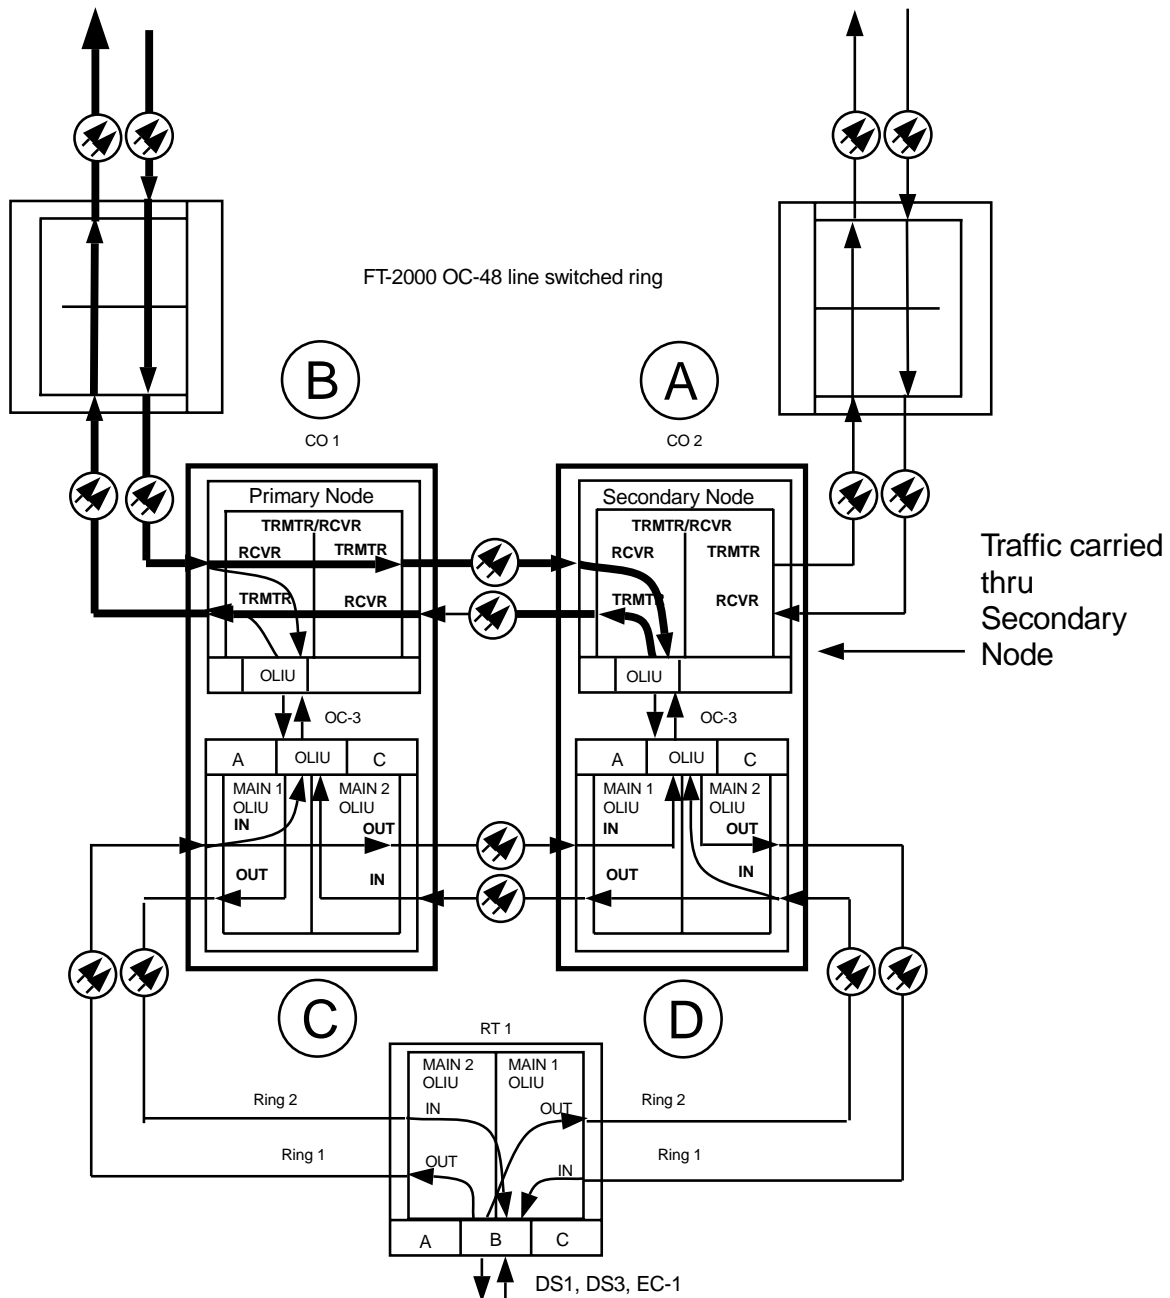

Figure 2 - OC-3/OC-48 DRI Interworking
22. At the FT-2000 **primary** dual ring interworking node (for example, node B in Figure 2), use FT-2000 procedures in 365-575-103, *FT-2000 OC-48 Lightwave System, Release 8.1 Through 9.1, User/Service Manual*, **Delete DS3 and/or EC1 Low Speed Port(s), NTP-003.**
| 30. Perform end-to-end OC-3/IS-3 line test at DRI nodes associated with the FT-2000 primary node (for example, nodes B and C in Figure 2). | DLP-515 |